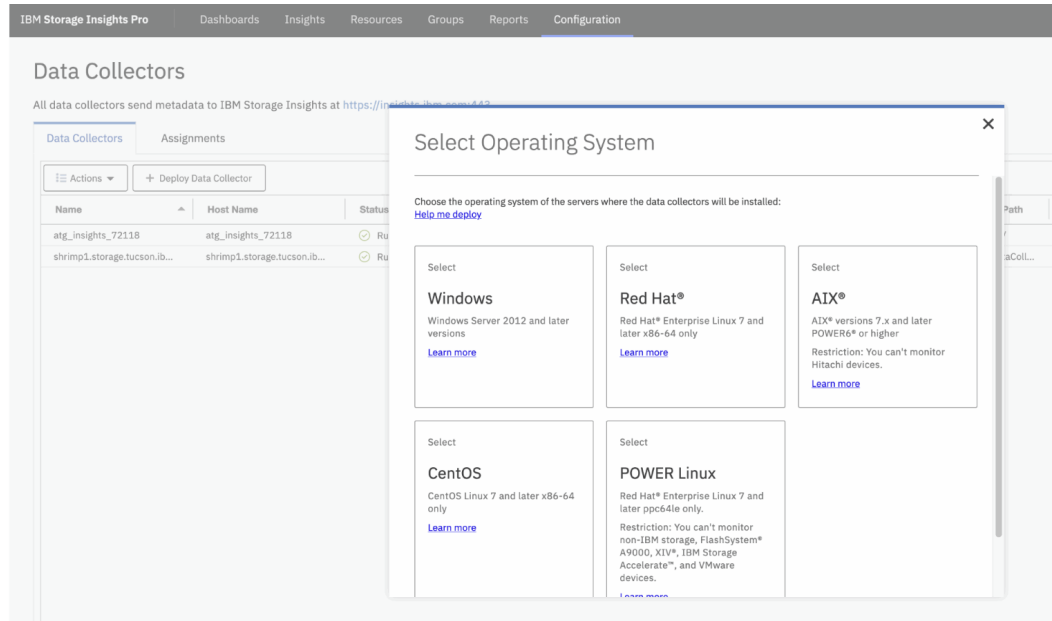

Figure 12-15 Deploy Data Collector
2. Install a data collector in your data center to stream performance, capacity, and configuration metadata about storage systems to IBM Storage Insights. Select **Configuration Data Collectors**, click **Deploy Data Collectors**, and get started, as shown in Figure 12-15 on page 430:
- b. Extract the contents of the data collector file on to the virtual machine (VM) or server where you want it to run. At least 1 GB of RAM and 3 GB of disk space are required.